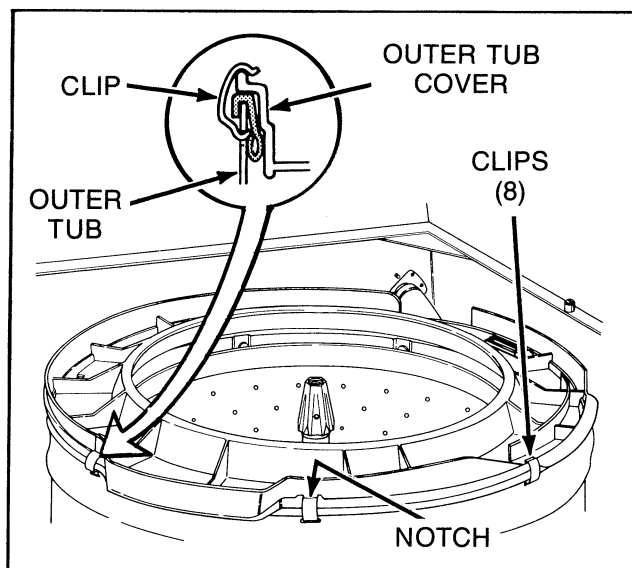

Figure 26
- d. Remove eight clips holding outer tub cover to tub, *Figure 26*, lift cover off tub and set beside washer cabinet.
NOTE: When installing outer tub cover, always use a new cover gasket. Lubricate the gasket with a rubber lube or liquid soap to aid in assembly. Cover must be placed on outer tub so notch on top edge of outer tub cover is directly over left front clip hole in tub, *Figure 26*. Starting with this hole, place each spring clip in its respective hole and snap in place. See *Figure 26* for proper clip installation.
- d. Disconnect filler hose from backflow preventer, then remove the eight clips holding cover to outer tub, *Figure 26*.
NOTE: When installing outer tub cover, lubricate the cover gasket with liquid soap to aid assembly. Cover must be placed on outer tub so notch on top edge of outer tub cover is directly over left front clip hole in tub, Figure 26. Starting with this hole, place each spring clip in its respective hole and snap into place, refer to Figure 26 for proper clip installation.
- d. Loosen hose clamp and disconnect filler hose from backflow preventer, then remove the eight clips holding cover to the outer tub, *Figure 26*.
NOTE: When installing outer tub cover, always use a new cover gasket. Lubricate the gasket with liquid soap to aid in assembly. Cover must be placed on outer tub so notch on top edge of outer tub cover is directly over left front clip hole in tub, Figure 26. Starting with this hole, place each spring clip in its respective hole and snap in place. See Figure 26, for proper clip installation.